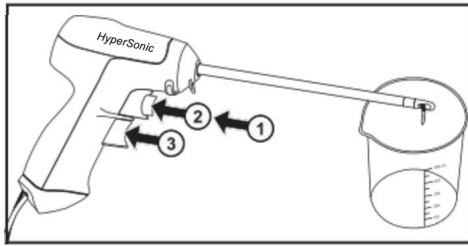

Figure 11. Steps for Activating Vapor Treatment.
1. Prime the Delivery Device using the following steps (Figure 11):
2. Pull in Flush Activation Button (1) Needle Deployment Button (2) and then Vapor Activation (3) (Figure 11).